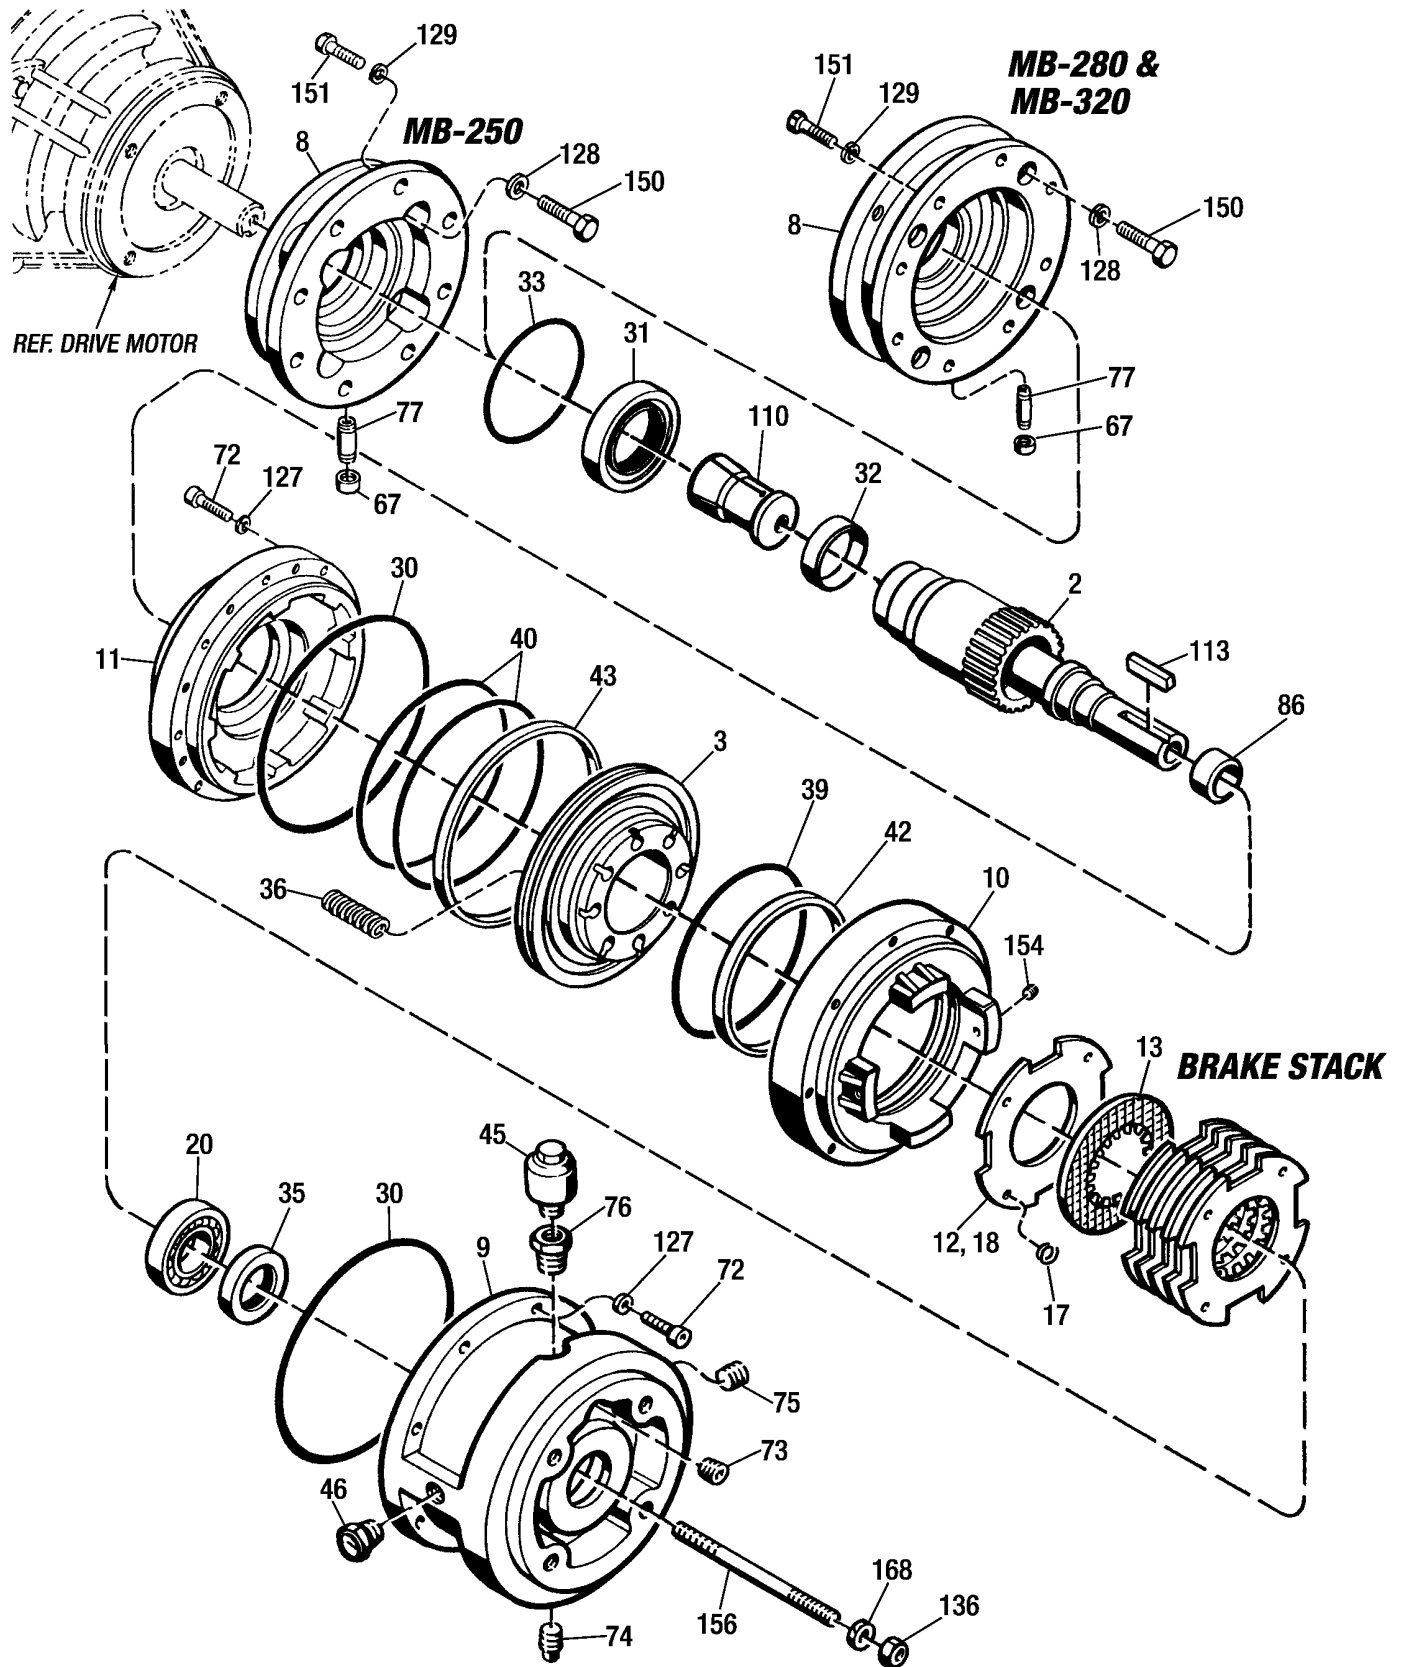

Figure 10.2 - MB-250, MB-280 and MB-320 Coupler Brake
**Repair Parts List (Figure 10.2)**